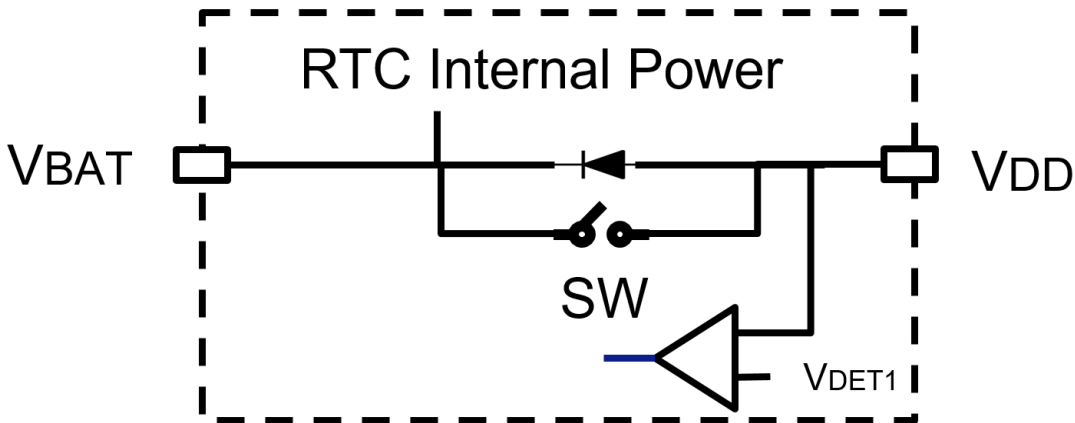

Figure 28 Battery Backup Switchover Function Block Diagram
This function can detect voltage drop of V_{DD} and switchover power supply from V_{DD} to V_{BAT} . This function circuit comprises the comparator detector V_{DET} which detect the power down of the main power source V_{DD} , and built-in MOS switch (SW) and a diode located between the main power-source pin V_{DD} and the backup power supply pin V_{BAT} . Refer to Figure 28.